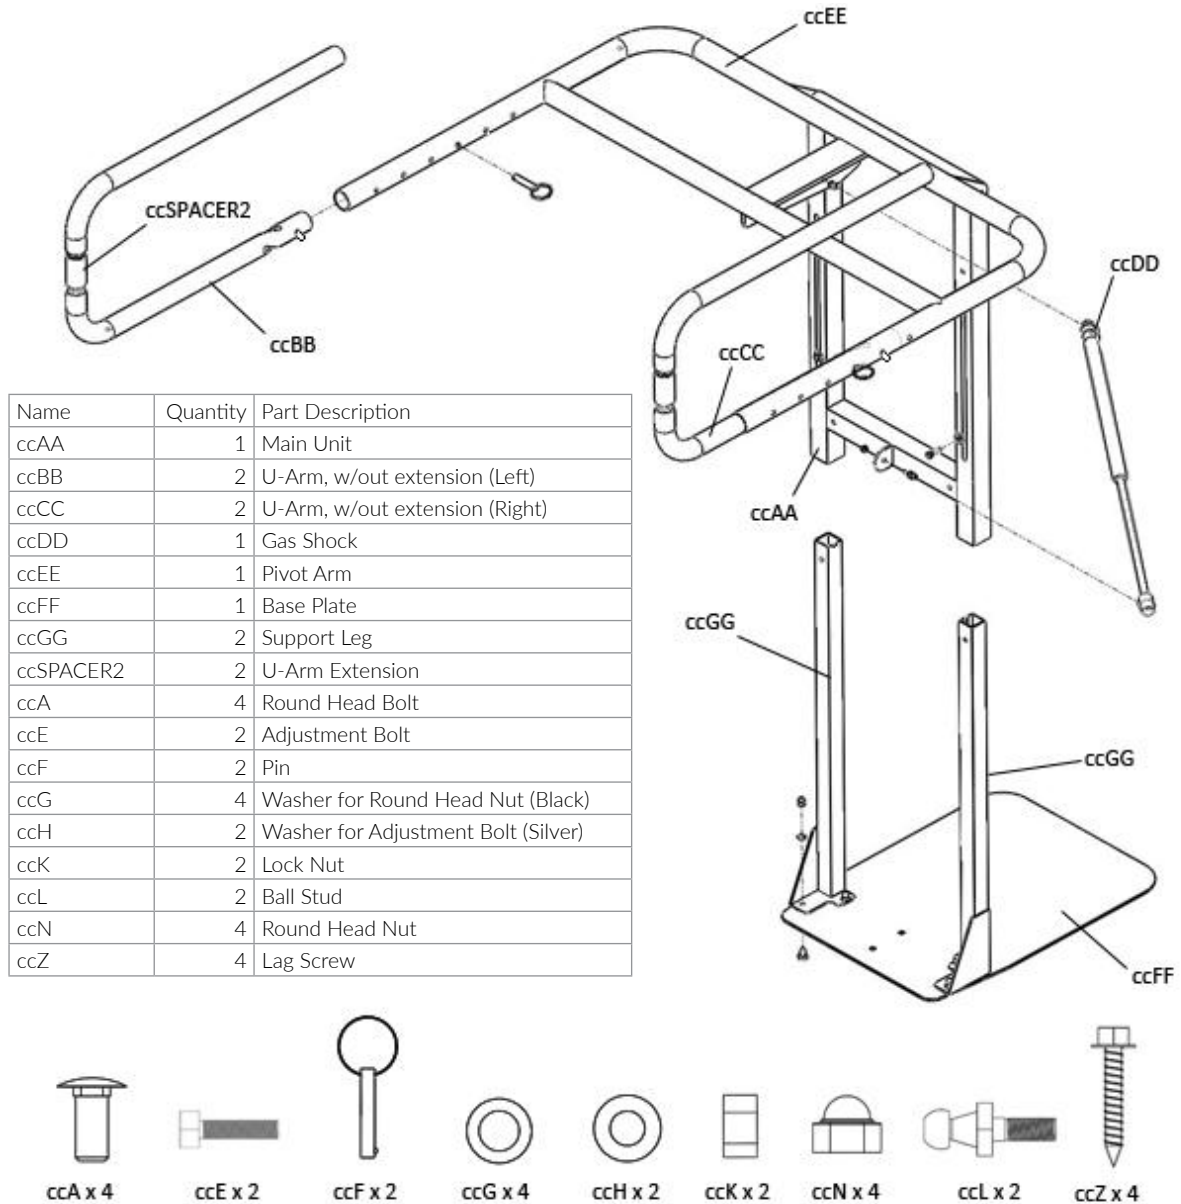

Figure 1
- 1 Lay out all the parts and verify that they are all present according to the Cover Caddy Parts and Hardware List. See Fig 1.